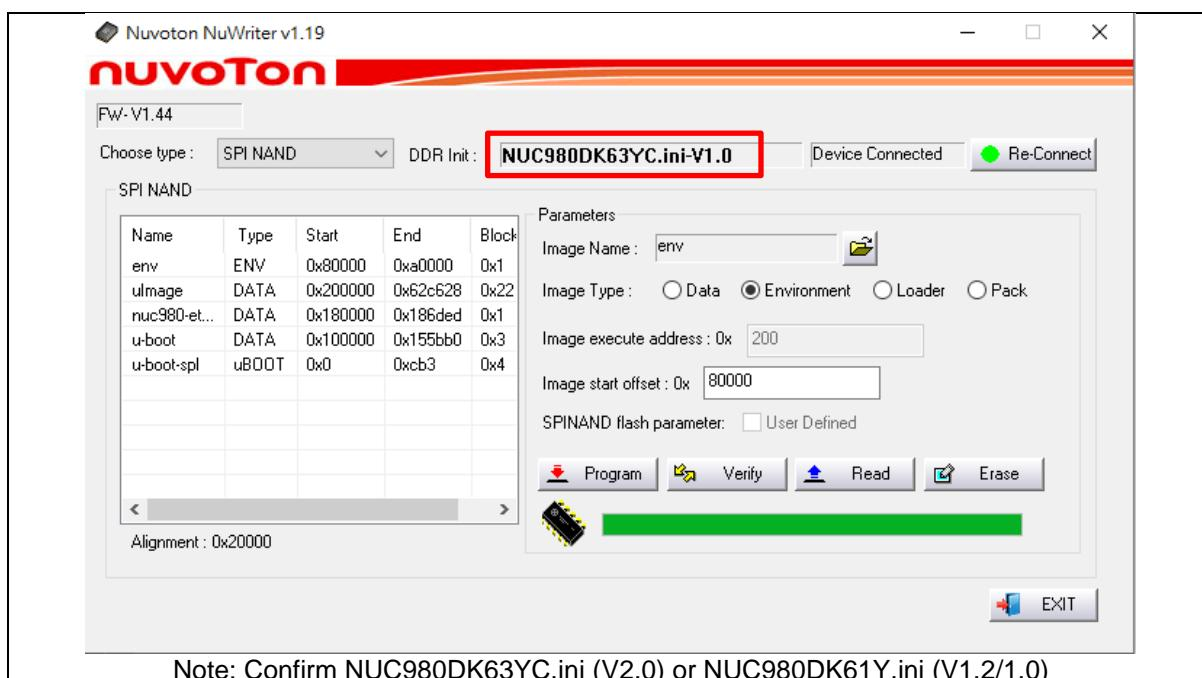

Figure 4-12 Program environment
8. According to Figure 4-12, following the steps below to program environment: